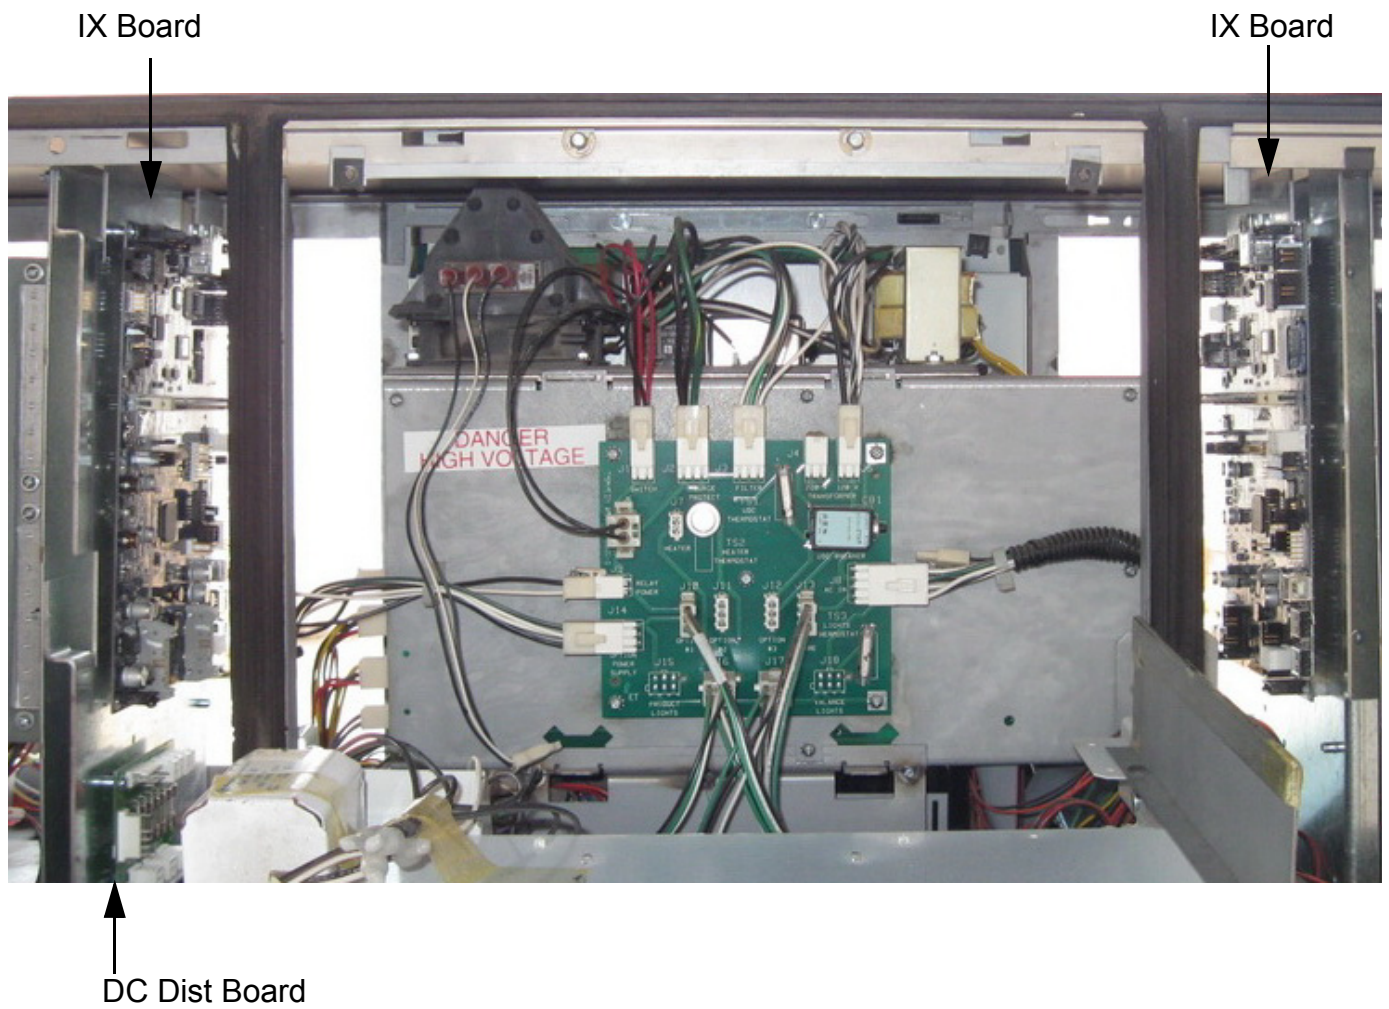

FIGURE 13
17. IF BLUE BOARD - Install iX Bracket (with DC Dist Bd) onto the existing DPT bracket that is near the DC power supply. Push the studs on iX bracket through the holes where the DPT slide rails were mounted. Secure the bracket using (3) #6 Nuts (6019401). Fig 13.